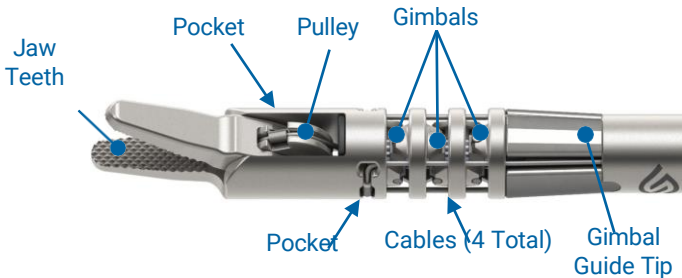

FIGURE 13: Take caution to brush these areas well.
**NOTE:** Be sure to brush all crevices of the end effector, paying close attention to the areas in FIGURE 13.